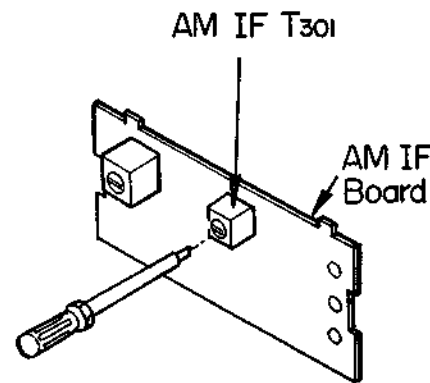

Fig. 3-10
- (2) Adjust IFT 301 to obtain flat top and maximum symmetrical response. See Fig. 3-10.